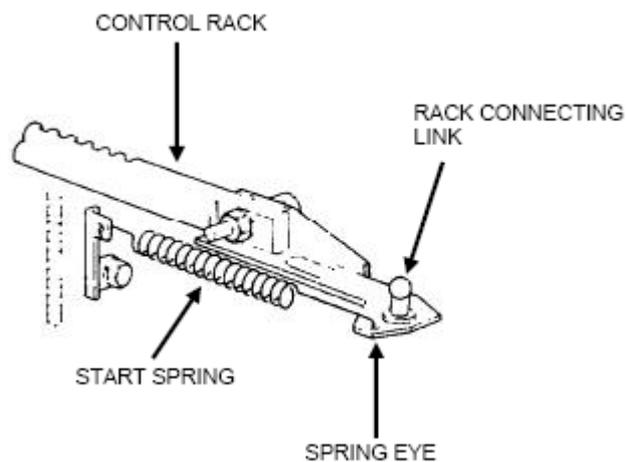

Figure 81 Connecting Link and Start Spring Location
- ii.** Install the start spring into the spring eye on the governor housing and, with a pair of long-nose pliers, connect the spring to the control rack connecting link (Figure 81).